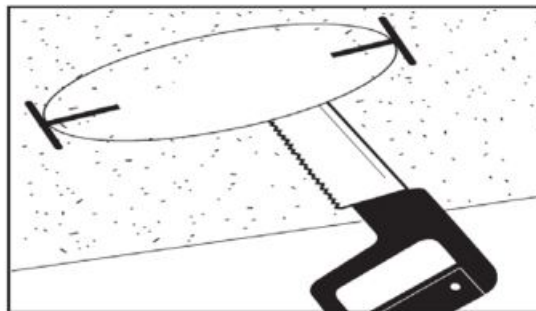

Figure 1
- If new hole is to be cut, use provided hole template. Place template over the desired location. Trace the outer ring with a pen or pencil (not included). Cut the opening with a saw (not included).(Figure 1)